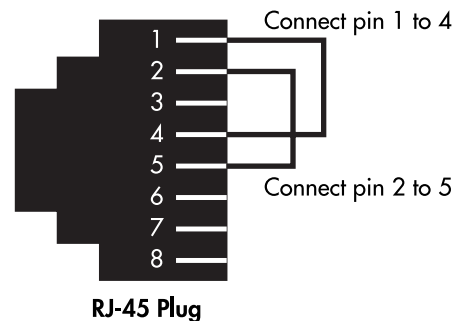

Figure 30. Pinout for loopback to test WAN port
**Note** If you suspect that there is a physical malfunction in the WAN ports, you can assemble a loopback connector to test the port (see figure 30).
**Note** If you suspect that there is a physical malfunction in the WAN ports, you can assemble a loopback connector to test the port (see figure 30 on page 40).